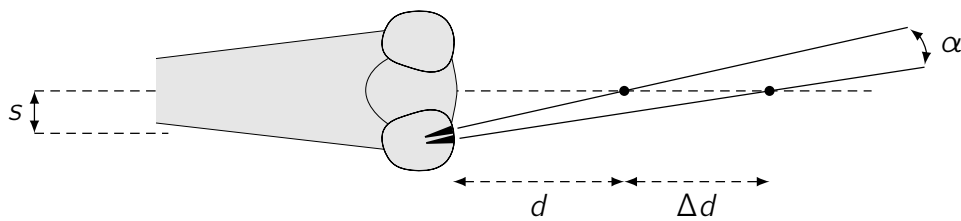

Fig. G.2
- (b) Locusts see the world through a pair of compound eyes (Fig. G.2, on the next page; viewed from the top). The inter-ommatidial angle in the horizontal plane, α , is estimated to be 0.5° (vastly exaggerated in the figure for clarity), which is small. The horizontal separation between the forward-looking regions of the two eyes is $2s = 4$ mm.
- (ii) Explain why, according to Fig. G.2 on the next page, locusts should in fact be unable to perceive *any* relative depth beyond a critical distance d_{max} , and give the